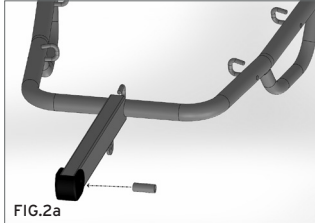

FIG.2a
3. Insert the bushing in the arm hole arranged for the joint fixing with column (Fig.2a)